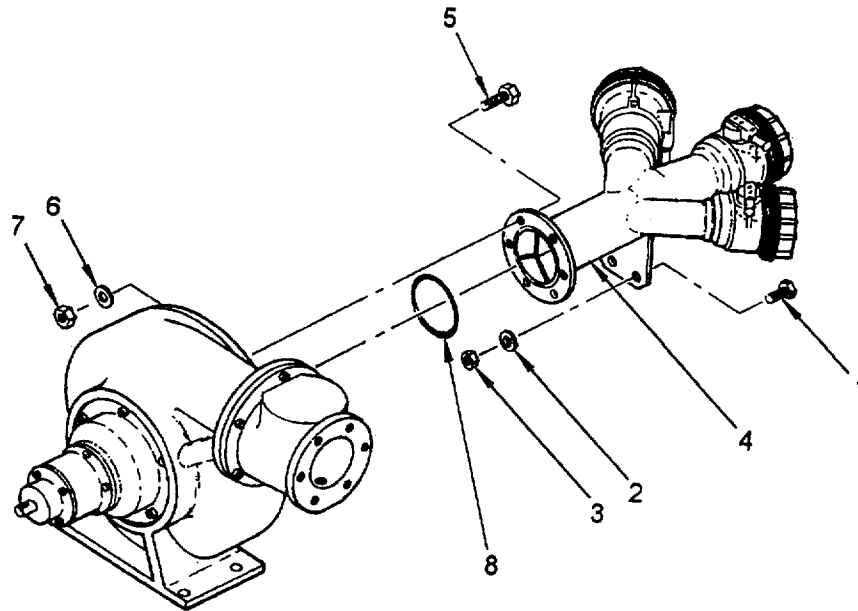

Figure 4-5. Inlet Manifold Outlet O-Ring Replacement
4.10.1 Replace Outlet O-Ring. (Refer to figure 4-5.)